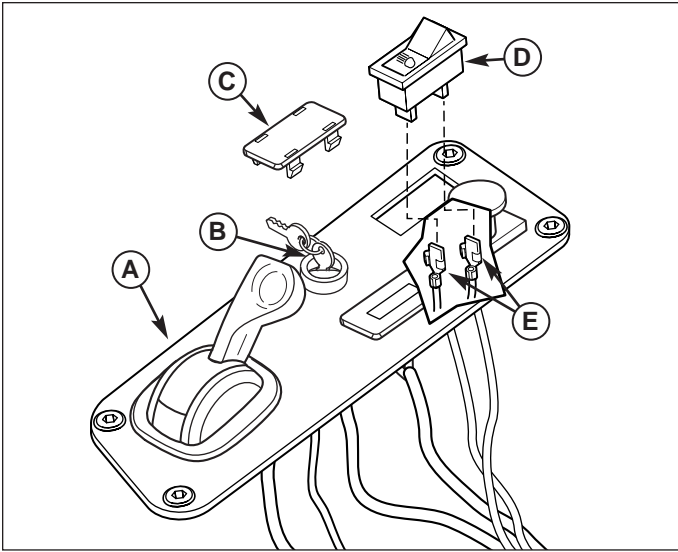

Figure 3. Switch Installation
5. Remove key(s) (B, Figure 3) from control panel (A).
7. Remove and discard cover plug (C, Figure 3) from control panel (A).
8. Install switch (D, Figure 3) into hole in control panel (A) with the icon in the direction as shown. Make sure the switch is properly seated.
10. Plug wires (E, Figure 3) into the terminals on switch (D). Either Wire may be connected to either terminal.